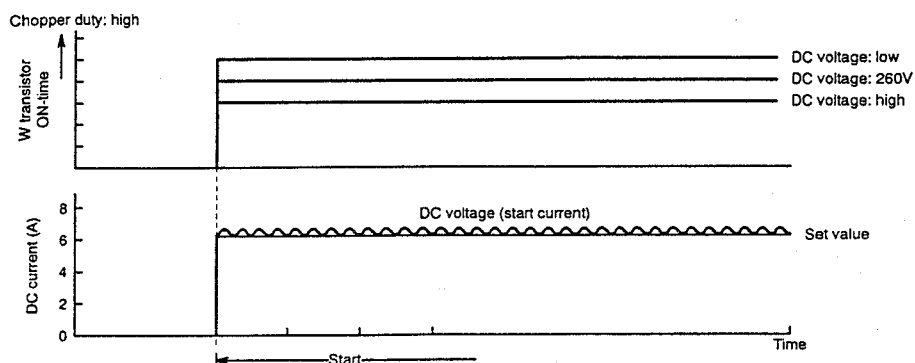

Fig. 8-10
- (2) Varies the turn-ON time of the W+ transistor according to the DC voltage level and the start is controlled so the start current is approx. 8A as shown in Fig. 8-10.